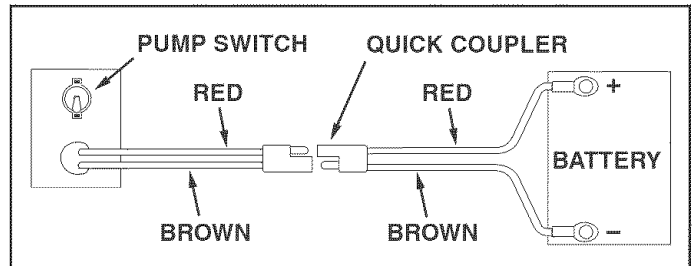

FIGURE 9
- To connect the wire harness to the tractor, attach the red wire to the positive post on the battery or to the "HOT" connection on a tractor switch or ammeter. The brown wire may be grounded or connected to the negative battery post. See figures 9 and 10.